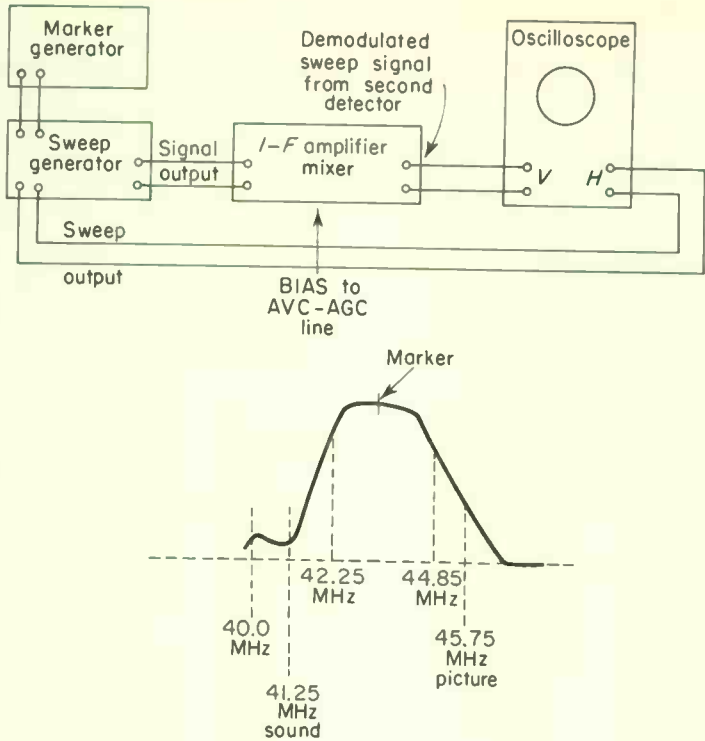

Fig. 13-5. Video i-f alignment by direct sweep and marker injection.
1. Connect the equipment as shown in Fig. 13-4 for marker adder alignment, or as shown in Fig. 13-5 for direct-signal injection.
6. Adjust the sweep and marker generators to the appropriate intermediate frequency. Set sweep width to at least 5 MHz. Adjust the oscilloscope horizontal and vertical gain controls as necessary for a trace similar to that of Fig. 13-4 or Fig. 13-5.